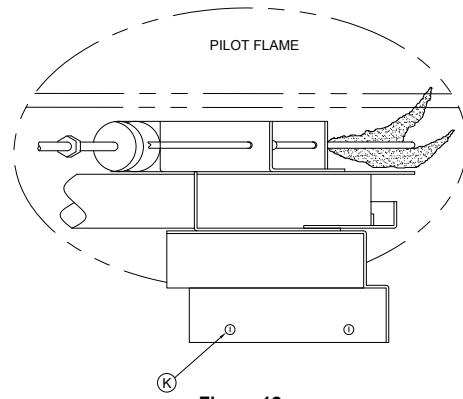

Figure 12
- B. Pilot Flame -** The pilot flame should engulf the tip of the thermocouple as illustrated in Figure 12. Correct as needed.